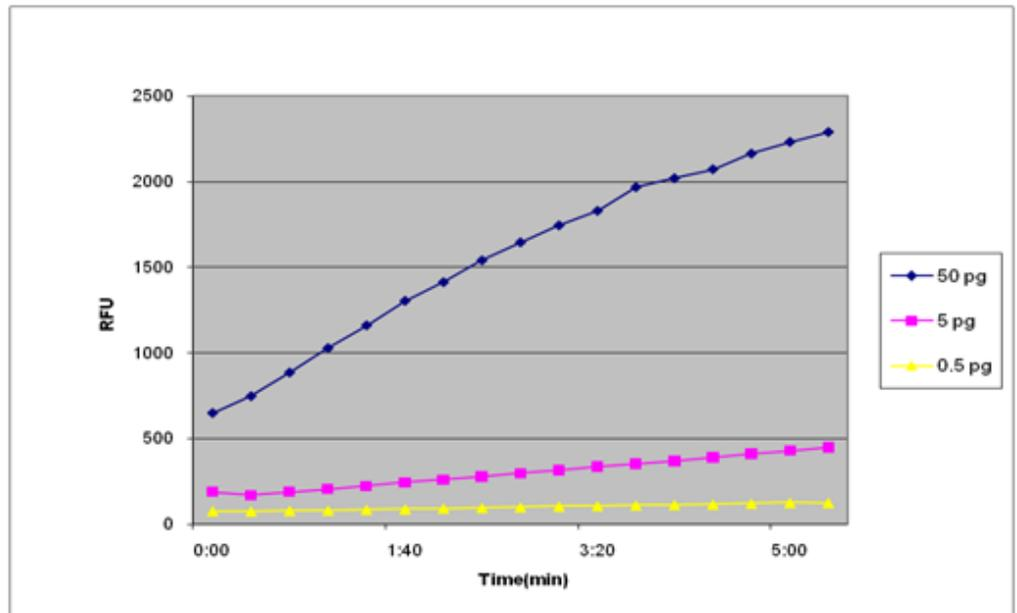

Figure 2 Real-time RNaseAlert® QC System v2 data
- Calculate the initial velocity only from the data points from the first 1–3 min after enzyme addition; they represent the rate of substrate turnover when the system is at equilibrium (Figure 2).